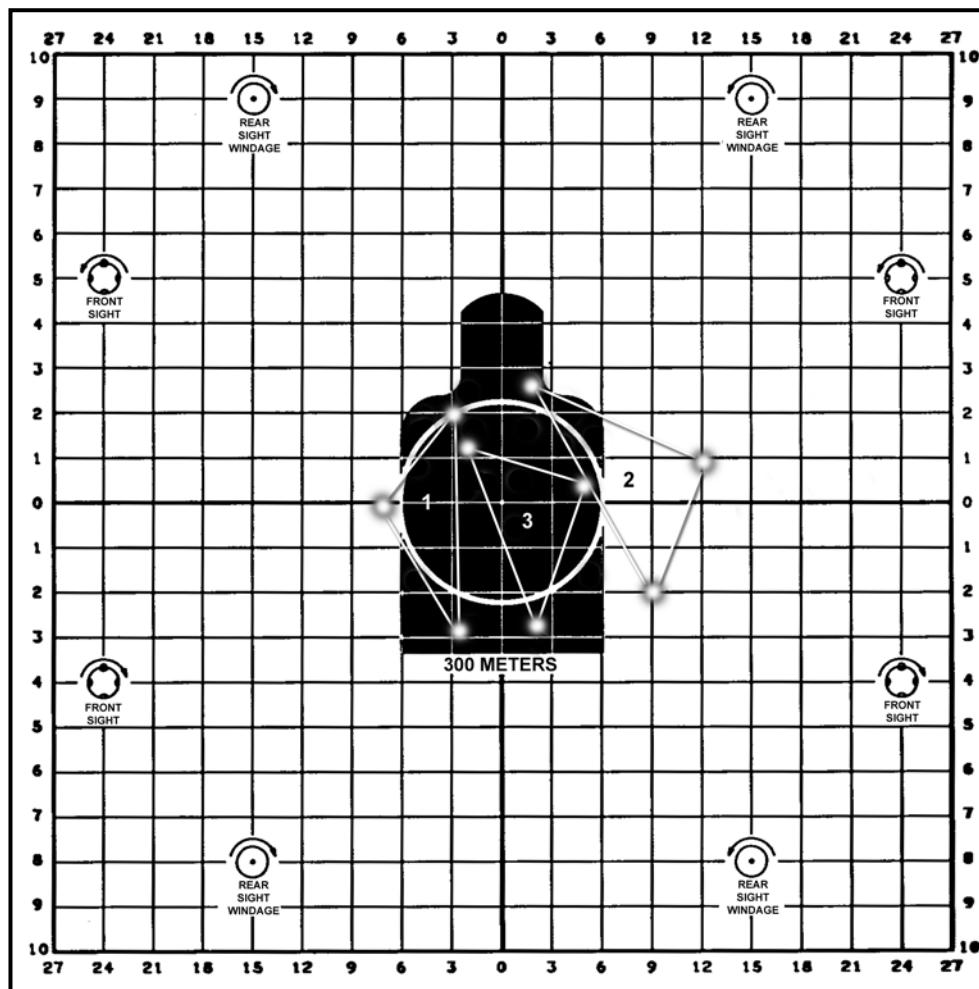

Figure 5-14. Shot groups with inconsistent aiming and major shooting error.
(4) **Shot Groups with Inconsistent Aiming and Major Shooting Error.** The groups shown in Figure 5-14 indicate inconsistent aiming and major shooting errors. The firer should be assigned a coach to troubleshoot the soldier's four fundamentals in an attempt to isolate the soldier's firing errors.